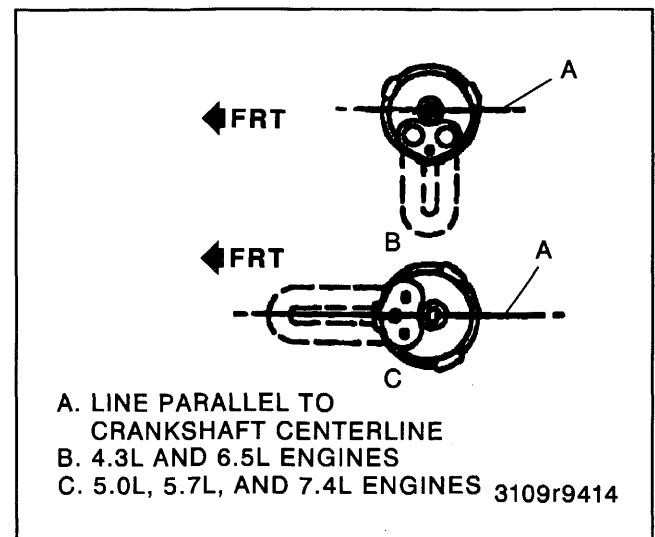

Figure 1—Engine Coolant Heater
**Remove or Disconnect (Figures 1 through 5)**
Install or Connect (Figures 1 through 5)
- Install the heater element in the correct direction to avoid element contact to the inside walls of the engine block as shown in figures 1 and 2.